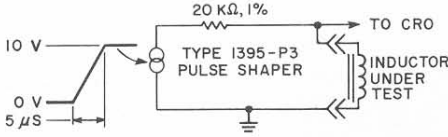

Figure 13. A calibrated tester for the inductance of small iron-core coils.
Let  $L$  in Equation (2) be  $10^{-5}$  and  $e$  be  $10^{-3}$  volts. Solving for  $\Delta t/\Delta i$  gives  $10^{-2}$ . Picking a reasonable but arbitrary number for either quantity, suppose we make  $\Delta t = 5$  microseconds. Then  $\Delta i = 5 \times 10^{-6}/10^{-2} = 5 \times 10^{-4}$ , or 0.5 milliamperes. Then, if we had a current waveform that changed from 0 to 0.5 mA in 5 microseconds and impressed that current on the inductor, we would develop 1 millivolt for every 10 microhenrys. This current is easily achieved if the Pulse Shaper generates a 10-volt amplitude ramp in 5 microseconds and a 20,000-ohm precision resistor is connected between the shaper and the inductor, as shown in Figure 13.
Figure 15. Voltage across an inductor tested by the arrangement in Figure 13. Scale: Vertical, 50 millivolts per major division; horizontal, 1 microsecond per major division. One millivolt represents 10 microhenrys inductance.